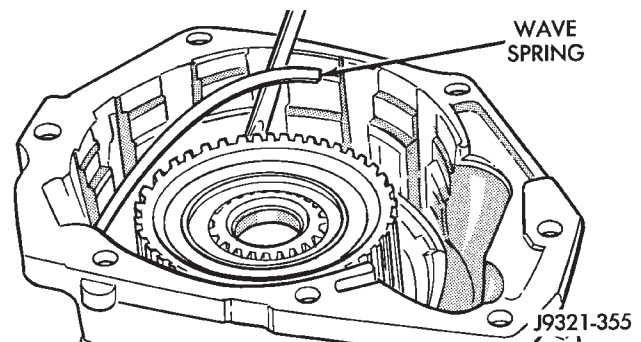

Fig. 254 Overdrive Clutch Wave Spring Removal/Installation
- (1) Remove overdrive clutch wave spring (Fig. 254).